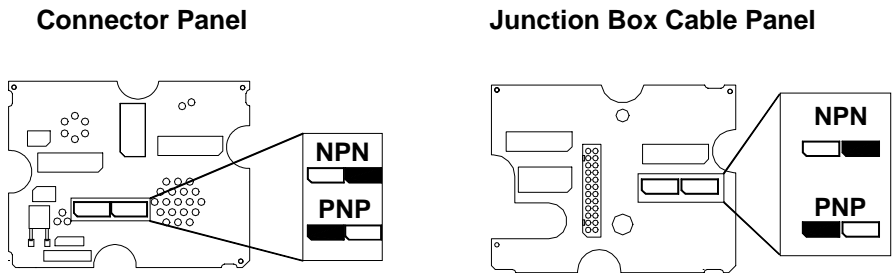

Figure 2.4 – Input selection for DS6100
2. Position the jumpers as desired, referring to Figure 2.4.